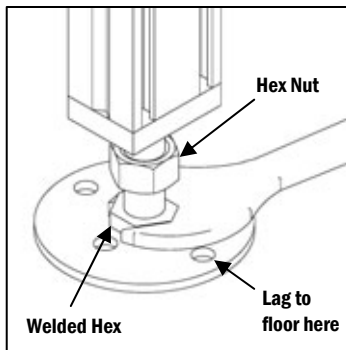

Figure 5
- Rotate the hex welded to the foot to the desired height (**Figure 5**).